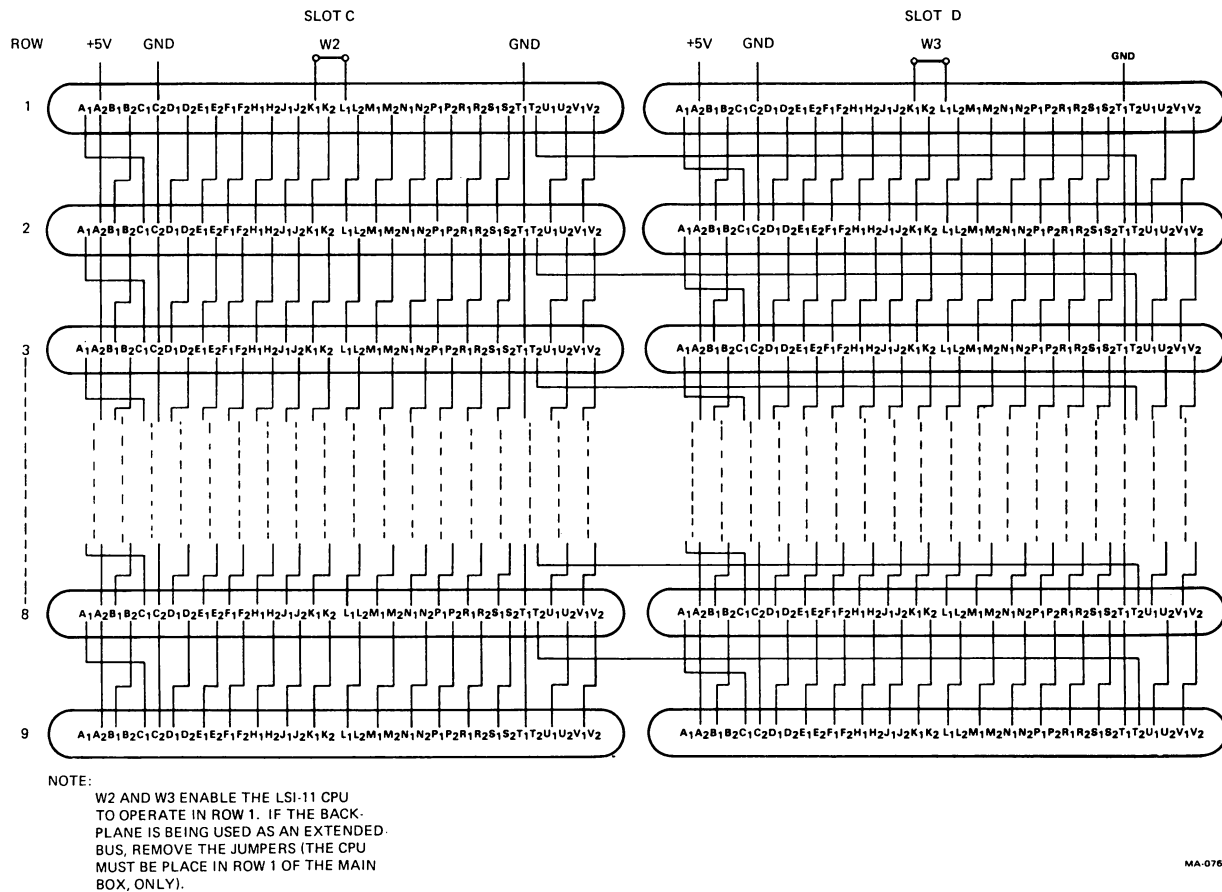

Figure 12. CD Bus Interconnection
The CD bus connections are shown in Figure 12. The +5 V supply voltage is bused to all rows on pin A2 of slots C and D (Example, pins CA2 and DA2). Ground connections on pins CC2, CT1, DC2 and DT1 are bused to all rows (Figure 12).
2. Pin CA1 connects to pin CC1 of the adjacent higher numbered row. (Refer to Figure 12.)